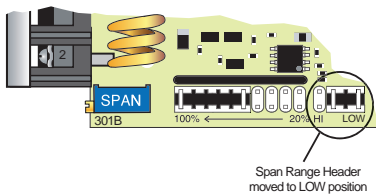

Figure 8 – Span Range Header Adjustment
- 1) The first adjustment to make is the coarse range setting. Set the span range header to the LOW position (See Figure 8).